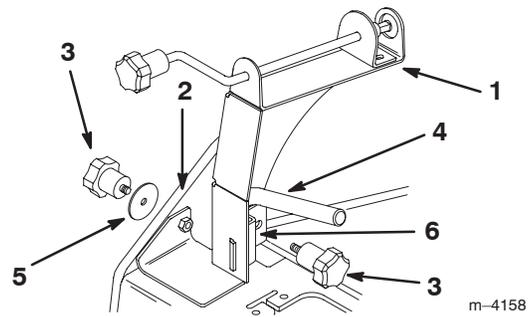

Figure 4
2. Locate the hole in the side plate of the frame (Fig. 4) that is located just behind and to the left of the left handle. If there is no hole, complete the following:
3. Place the chute control bracket between the left handle and the side plate (Fig. 4).
4. Secure the bracket to the frame with a knob and the large washer (Fig. 4).
5. Insert the handle clamp into the slot in the chute control bracket, wrapping it around the handle, then secure it with a knob (Fig. 4).